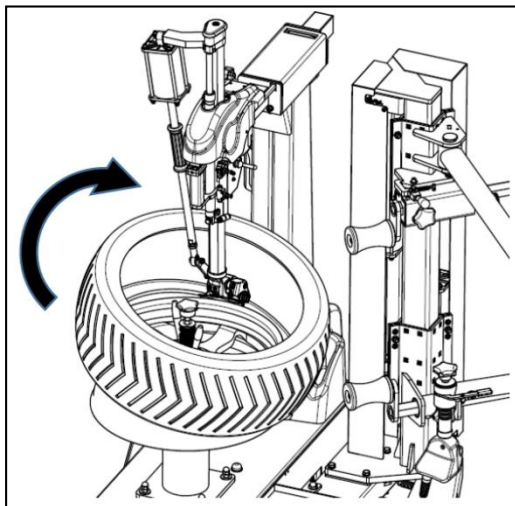

FIG19
- Clean up the oil and rust on the rim and lock the rim on the turntable. Note: the demount groove must be at upper side to mount. Spread the lubrication liquid or soap liquid around the lip. Tilt the tire against the rim and keep the front end upwards. Press down the column tilt pedal to make the column return to the original position. Move the demount head to firmly contacted rim. Position the left of the lip above the tail of the demount tool and the right under the hump of the demount tool (FIG19). Press down the right side of the tire as hard as you can and step turntable pedal to rotate the turntable clockwise to guide the lip into the tire detach slot completely.